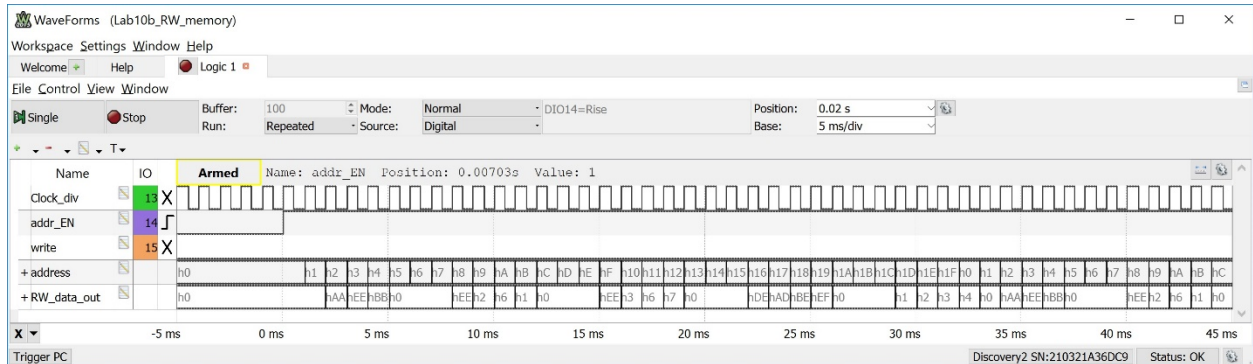

Figure 10.13
Now you are going to take a logic analyzer measurement of the R/W system during a read. Press the reset button to put the address back to x"00" and then press the KEY(1) button once. The logic analyzer will trigger. Note that the clock of the system is running at 1 kHz. This means that no matter how fast you try to remove your finger from KEY(1), it will still be slow enough that hundreds of values will be read out of the R/W array due to having `addr_EN` asserted while KEY(1) is pressed. You should see a measurement similar to Figure 10.13. Your values will differ depending on what you stored in the address locations beyond x"03".